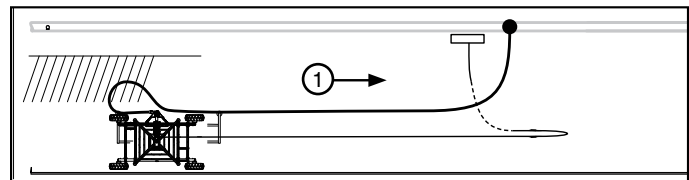

Figure 53-4 1. Direction of Travel
- (c) After the side inlet has pivoted completely the hose is being pulled by the side inlet and guided by either the side walls of the cart tires. See Figure 53-4.